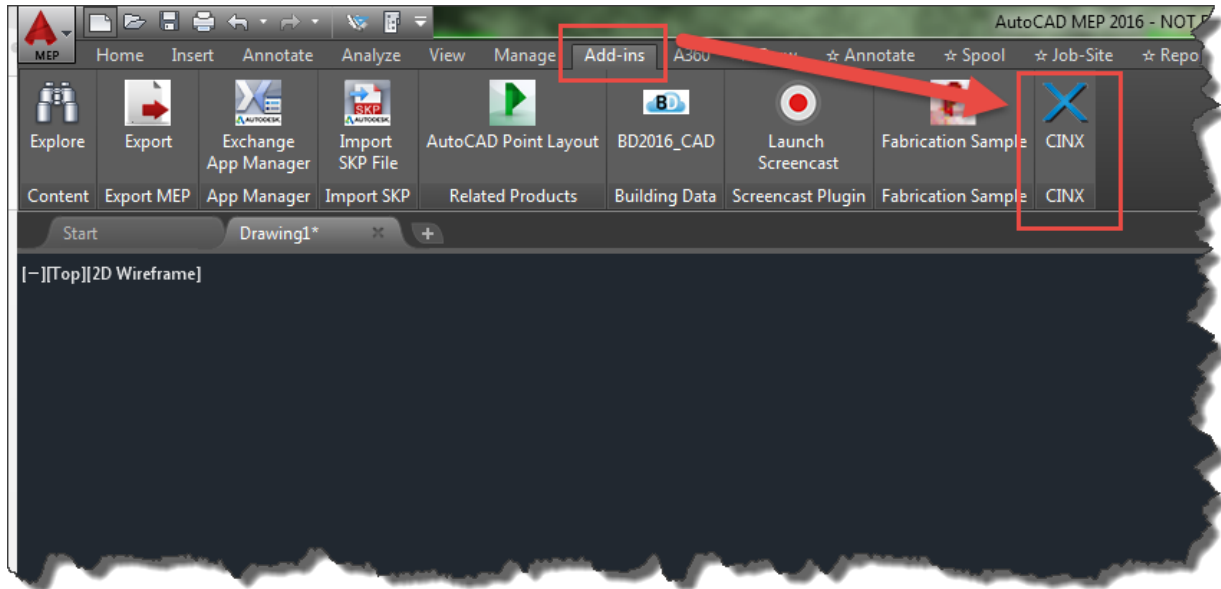

FIGURE 4: IMAGE OF CINX LOCATION IN CADMEP
**Locate the CINX Add-In. It can be found in either ESTmep or CADmep. See Figure 4 below for location in CADmep.**